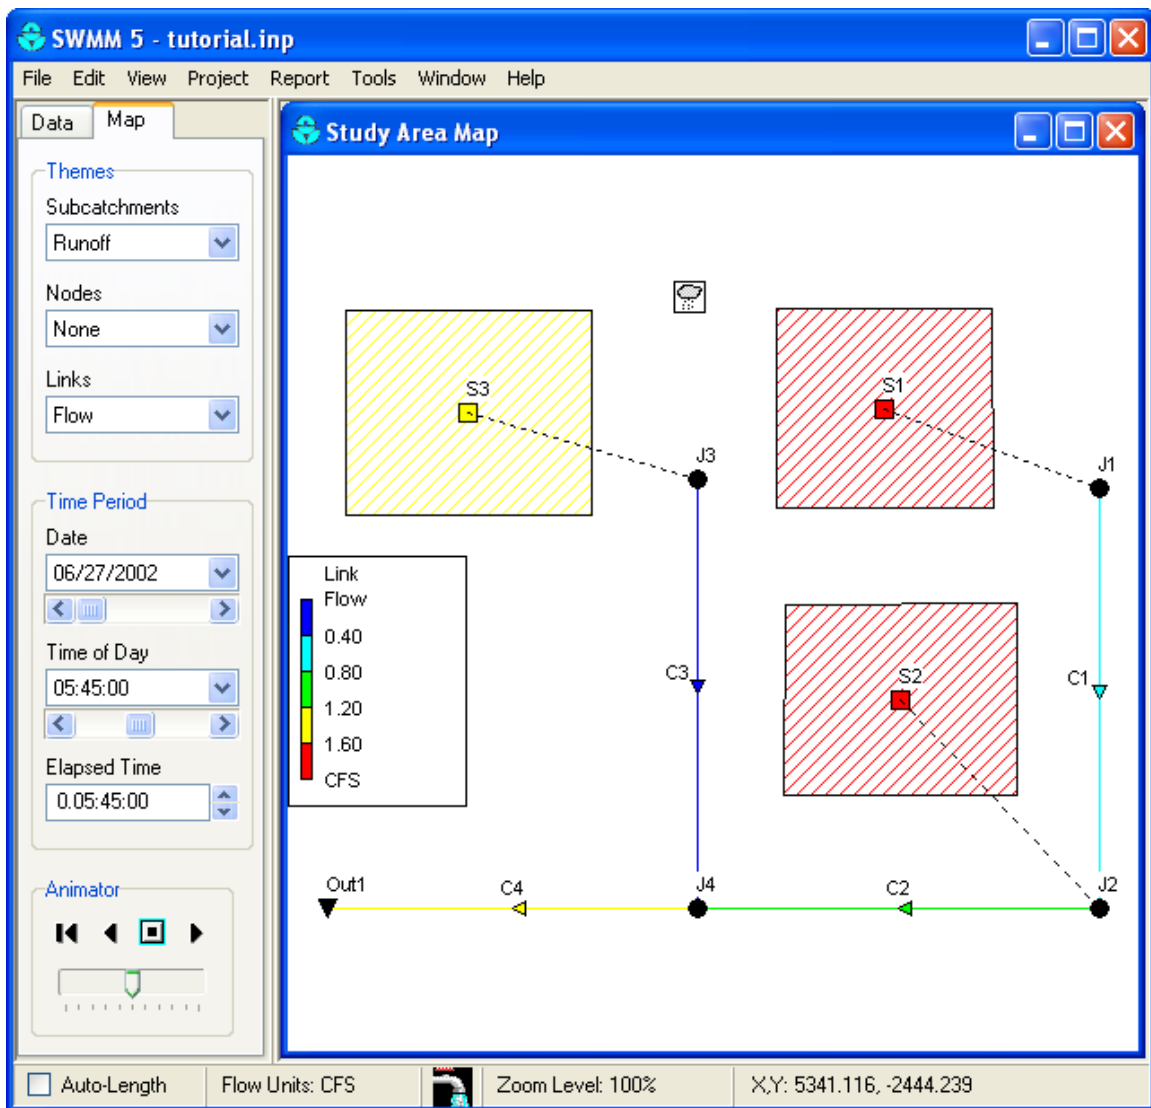

Figure 2-11. Example of viewing color-coded results on the Study Area Map.
- The Node Flooding Summary table (not shown in Figure 2-11) indicates there was internal flooding in the system at node J2⁹.
- The Conduit Surge Summary table (also not shown in Figure 2-11) shows that Conduit C2, just downstream of node J2, was surcharged and therefore appears to be slightly undersized.
2. Select the variables to view for Subcatchments, Nodes, and Links from the dropdown combo boxes appearing in the Themes panel. In Figure 2-11, subcatchment runoff and link flow have been selected for viewing.
6. The Date / Time of Day / Elapsed Time controls on the Map Browser can be used to move through the simulation results in time. Figure 2-11 depicts results at 5 hours and 45 minutes into the simulation.
7. You can use the controls in the Animator panel of the Map Browser (see Figure 2-11) to animate the map display through time. For example, pressing the  button will run the animation forward in time.